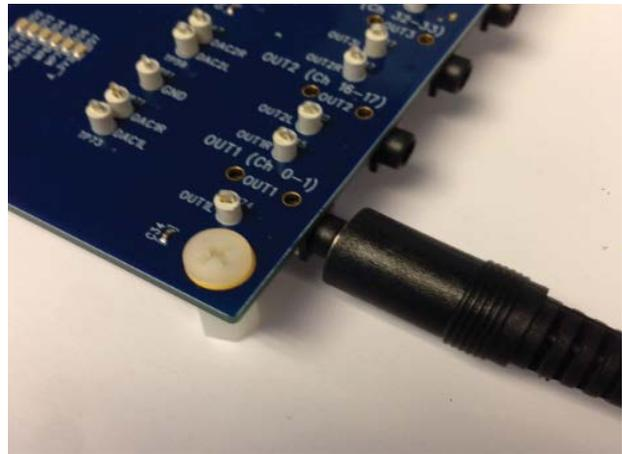

Figure 14. Analog Stereo Output Connection
Figure 13 shows the input source connection. Figure 14 shows the output connection. Figure 15 shows the location of the connectors on the board.
- i. To add an **Input** block, from the **ADAU1452 > IO > Input > sdata 0-15** folder, click **Input** (see Figure 22) and drag it into the project space to the right of the toolbox (see Figure 23). (By default, Channel 0 and Channel 1 are selected. This matches the analog audio source hardware connections shown in Figure 13 and Figure 14; therefore, no modifications are needed.)